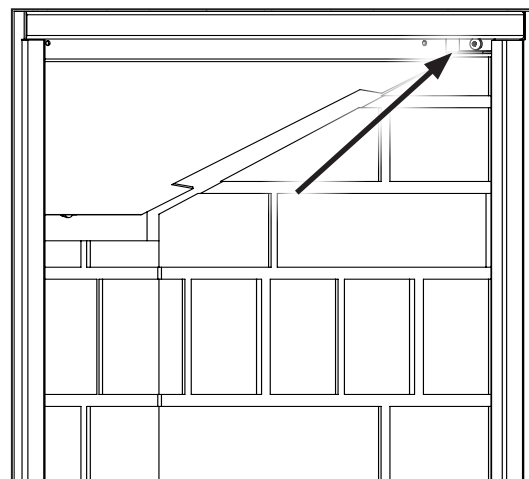

Figure 61. Top Panel Retainers.
3. Next, remove the top brick panel retainers on each side as shown in Figure 61 using a T20 screwdriver.